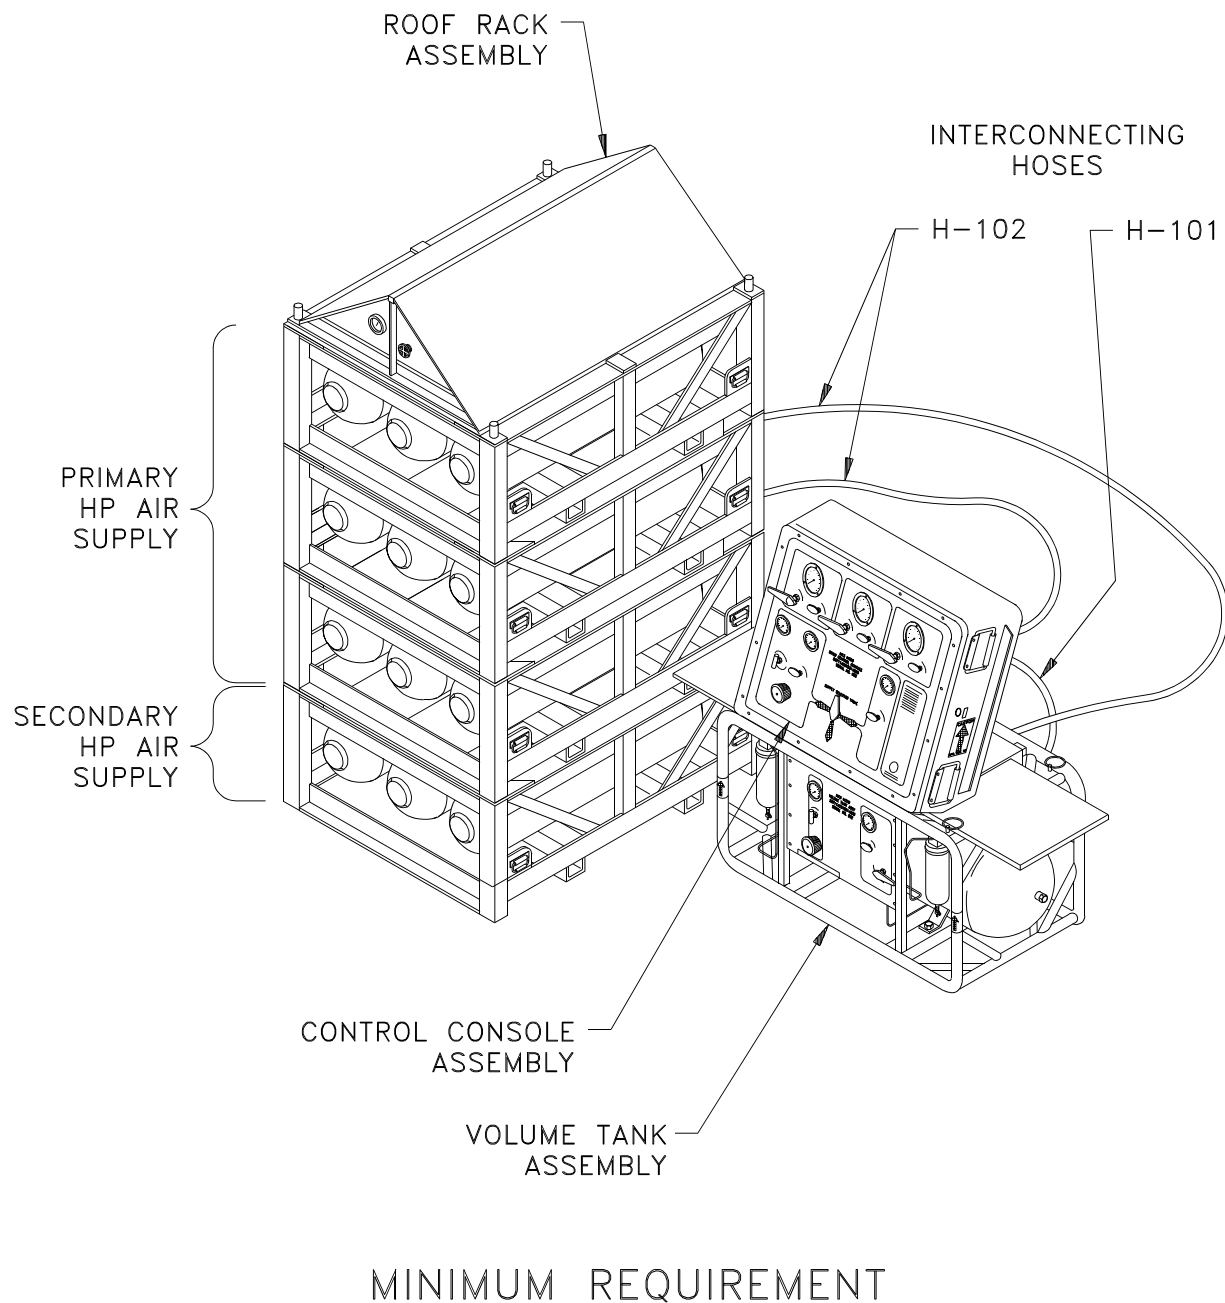

Figure 1-3. Lightweight Dive System (LWDS) MK 3 Mod 0, Configuration 2
1.3.2 CONFIGURATION 2. Configuration 2 (Figure 1-3) is used for dive missions limited to a maximum dive depth of 130 fsw. The primary HP air supply consists of a minimum of three vertically stacked flask rack assemblies, each containing three HP composite flasks. The flask rack assemblies are interconnected and cascaded, which enables a single pressure reading to be taken from the roof rack assembly located on top. The roof rack assembly enables the flasks to be charged before, during, or after a mission. The HP air flows to the volume tank assembly where it is reduced to LP air through an HP regulator. The LP air is then stored in the volume tank assembly where it is filtered before passing to the control console assembly.